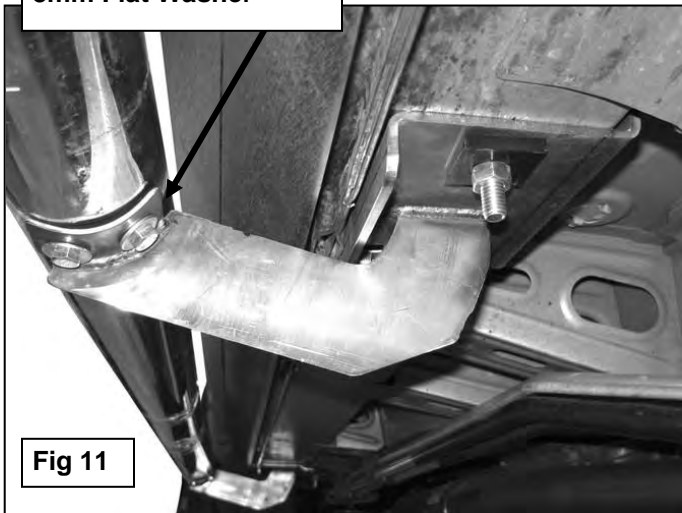

Fig 11
9. Carefully position the passenger Sidebar onto the Mounting Brackets. Bolt the Sidebar to the Mounting Brackets with the included (4) 8mm x 25mm Hex Bolts, (4) 8mm Lock Washers and (4) 8mm Flat Washers, (**Figure 11**).